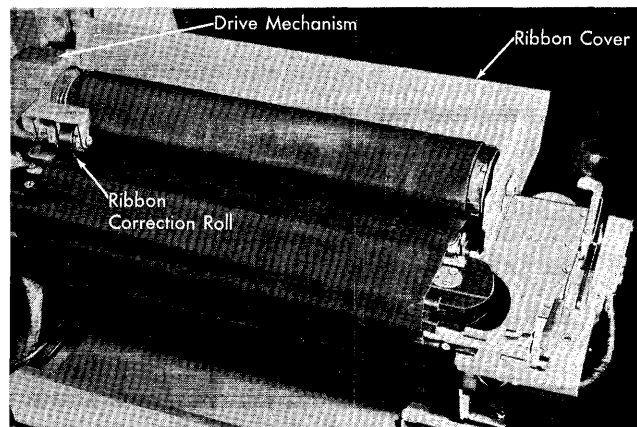

Figure 31. Ribbon Mechanism
4. Open the ribbon cover (Figure 31).